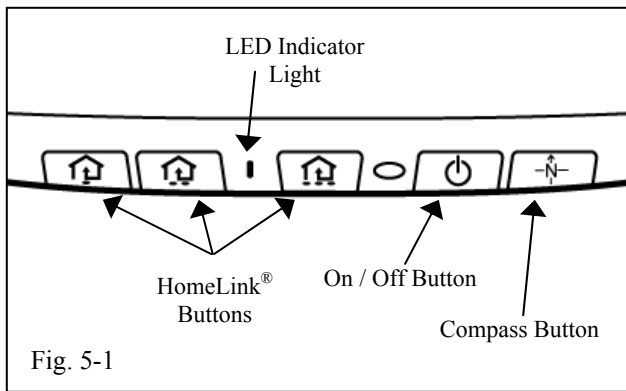

Fig. 5-1
- (1) Push in HomeLink® switches, one at a time. Verify that the LED Indicator light is red when each switch is pushed. (Fig. 5-1)